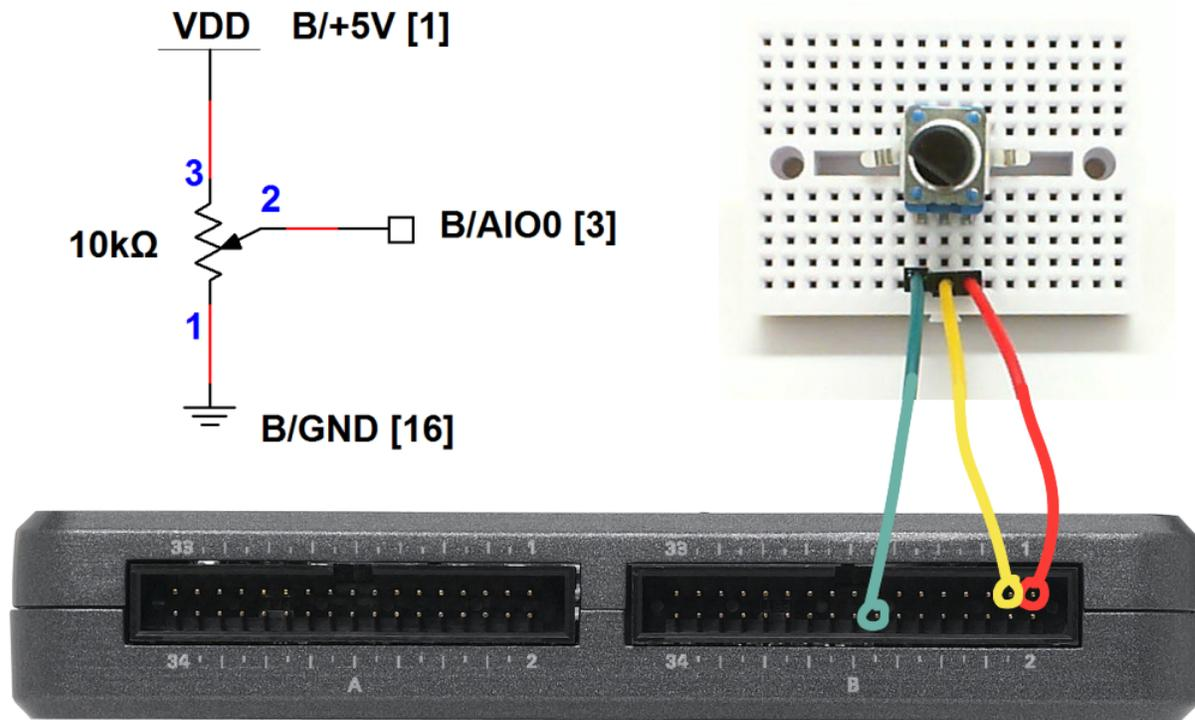

Figure 7.2: Demonstration circuit for potentiometer: schematic diagram, recommended breadboard layout, and connection to NI myRIO MXP Connector B.
**Build the interface circuit:** Refer to the schematic diagram and recommended breadboard layout shown in Figure 7.2 on the next page. The potentiometer interface circuit requires three connections to NI myRIO MXP Connector B: